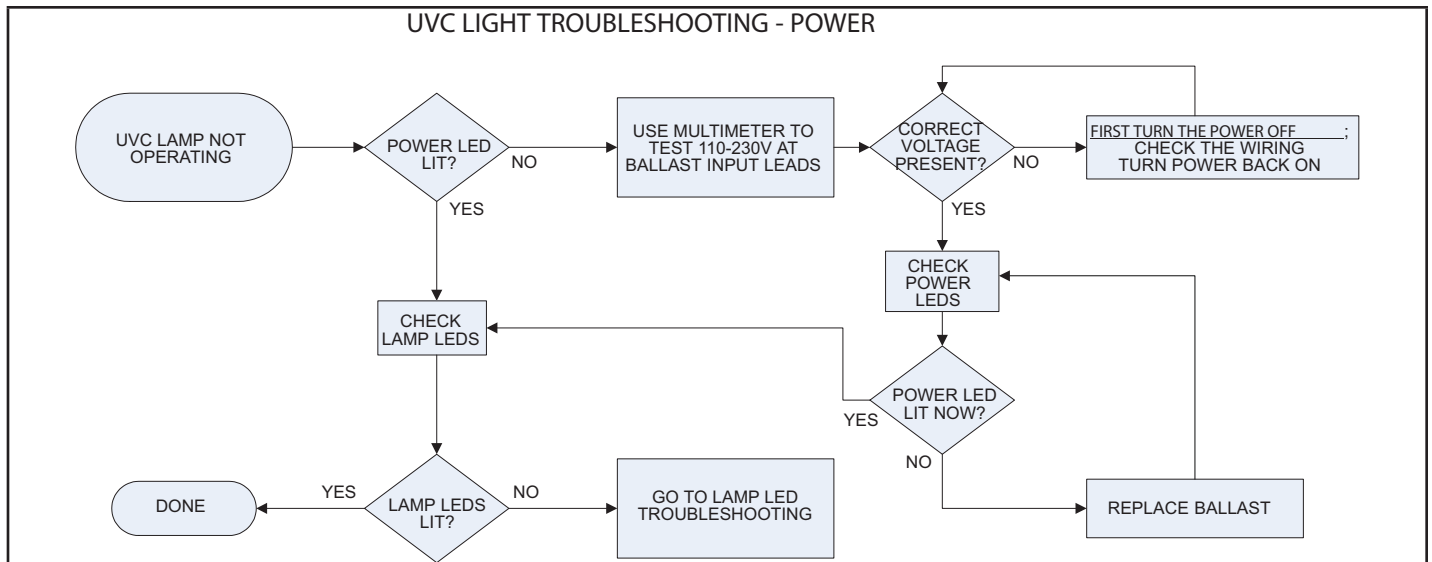
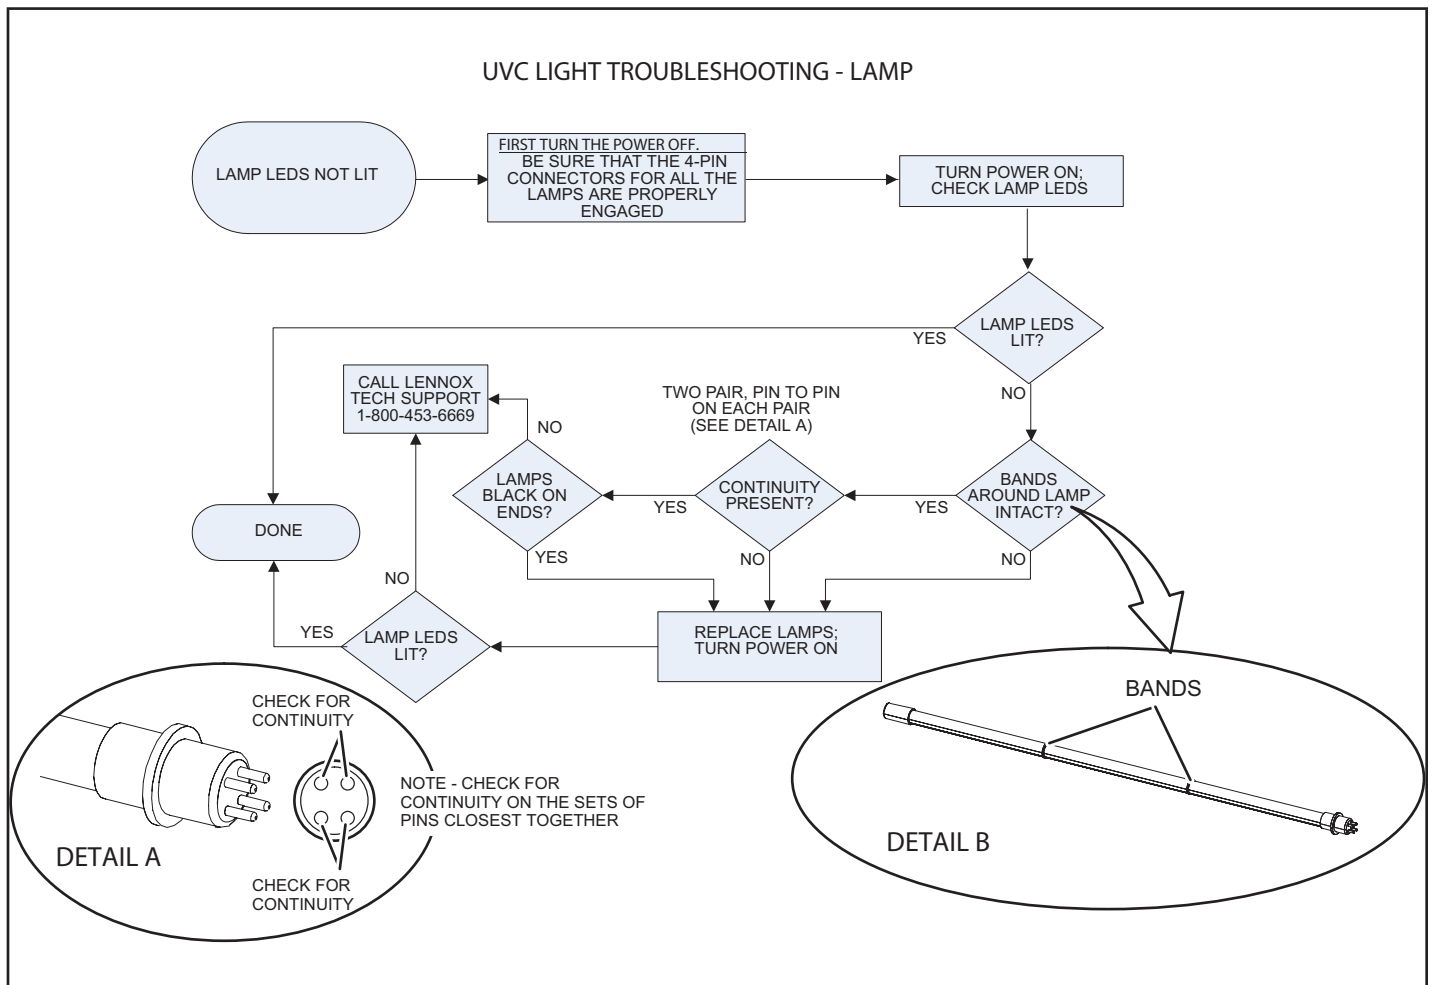

FIGURE 43
FIGURE 44
- 2 - Ohm-check across the lamp pins to check for continuity of lamp filaments (see FIGURE 44).
Troubleshooting charts are provided to aid in determining the cause of any problems encountered (FIGURE 43 and FIGURE 44).